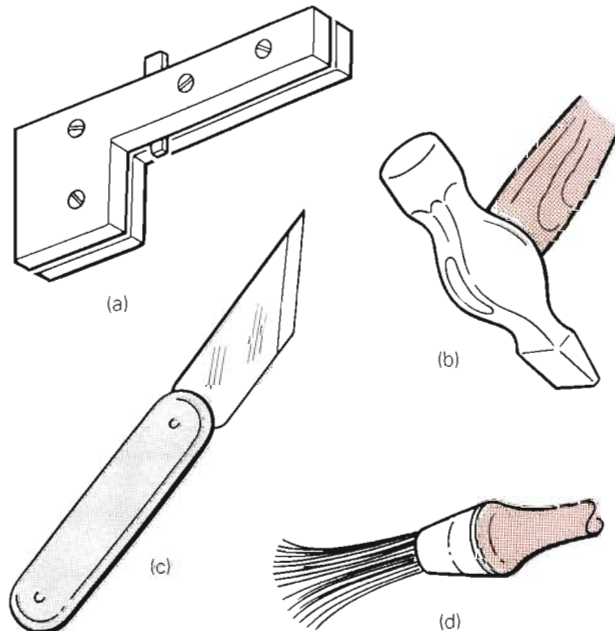

Figure 11.5 Tools used in surface decoration: (a) scratch stock, (b) cross-pein hammer, (c) knife, (d) brush.
- the **scratch stock**, used to finish off or to clear out the groove or trench; the scratch stock is in the form of a try square and it consists of two pieces of wood fastened together with screws. The cutter is held in between the two pieces, as shown in Figure 11.5. The vertical part serves as a fence when being used. It can also be used for finishing off mouldings when the appropriate cutter is inserted.